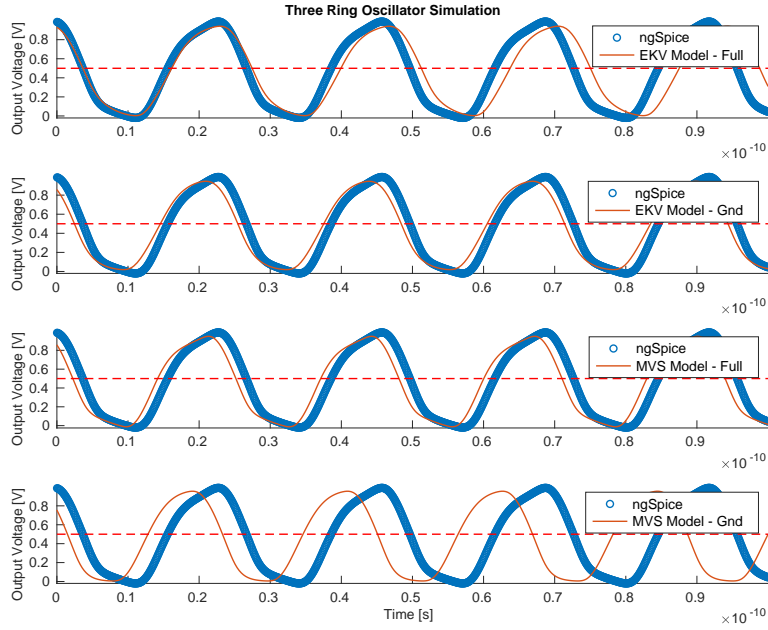

Figure 2: Three Stage Ring Oscillator model comparisons
obtain the results shown in Figure 2.
will produce the results found in Figure 2. If you do not have Rump's IntLAB Automatic Differentiation (AD) package [9], then comment out line 26 of the file: